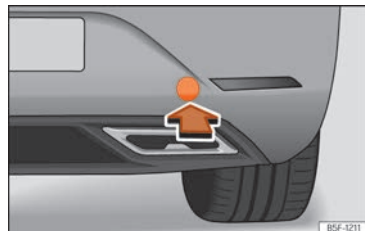

Fig. 214 Rear bumper on right: remove the lid.
The housing of the screw towing eye is on the right side of the rear bumper behind a lid >>> Fig. 214.
- Press the lower side of the lid >>> Fig. 214 to unclip it.